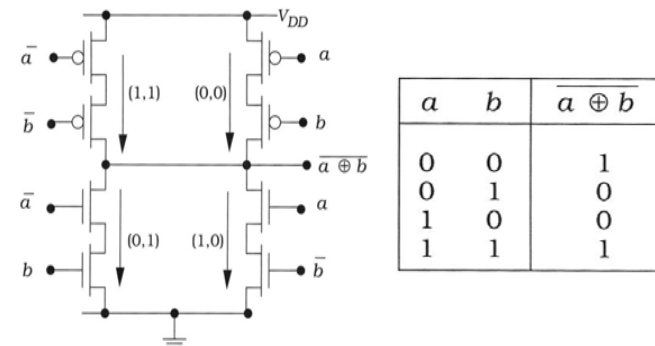

Figure 9.4 Exclusive-NOR (XNOR) circuit
- In Figure 9.4, an example of XNOR